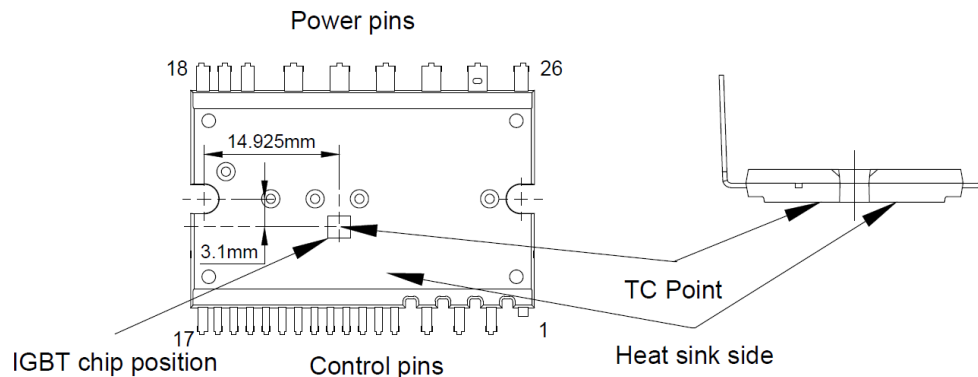

Figure 1.  $T_C$  Measurement Point
1. For the measurement point of case temperature ( $T_c$ ), please refer to Figure 1.